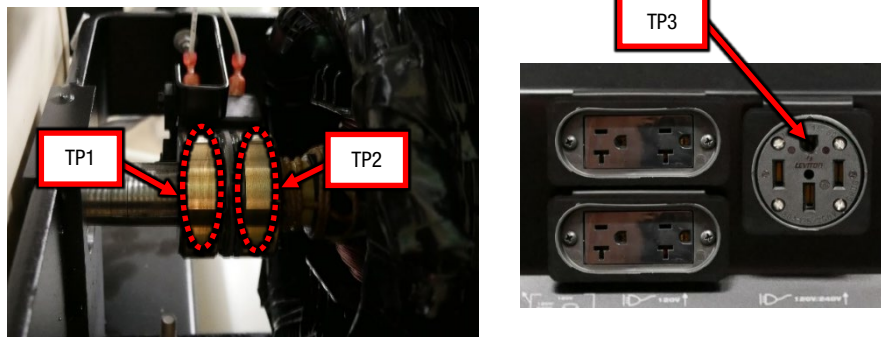

Figure F.3
- A.3. Perform the static measurements in Test Table 1, refer to Figure F.3 for test point locations. **NOTE: ENSURE LEADS 200A AND 219 ARE DISCONNECTED.**